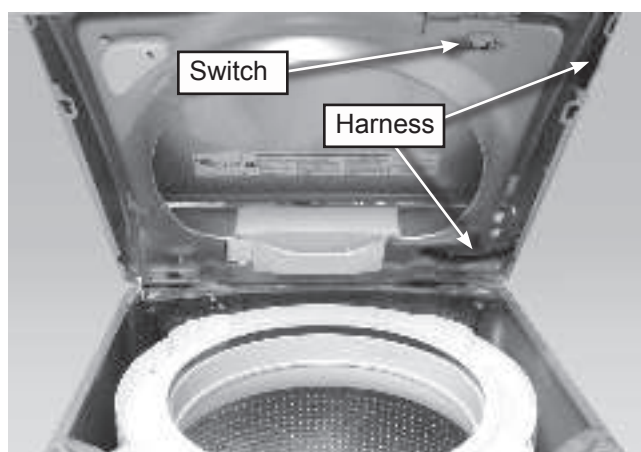

Figure 1
4. Raise the top on the hinges, see figure 1 and the section: "REMOVING THE TOP".